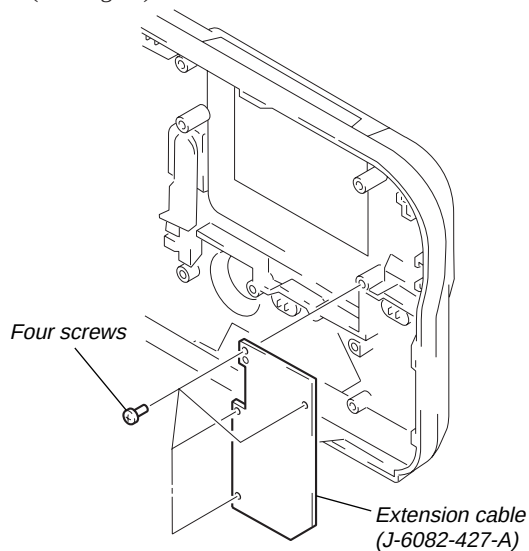

Fig. 1
- 2) Install the Extension cable (J-6082-427-A) on the rear cabinet. (See Fig. 1.)